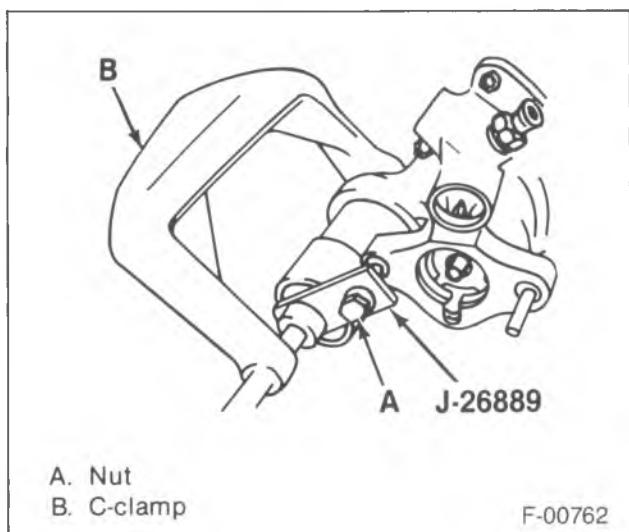
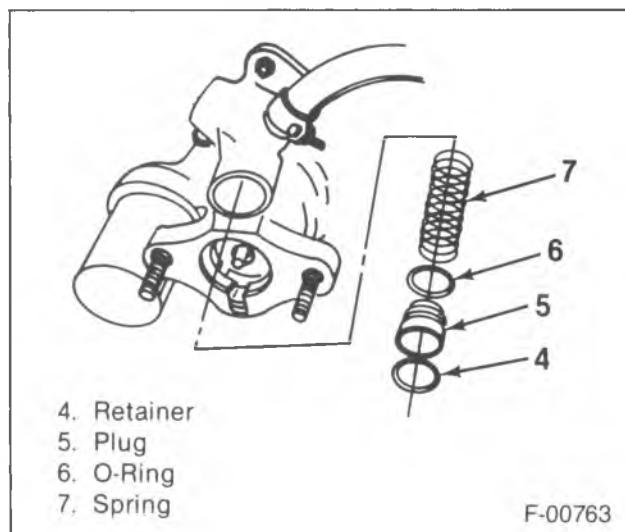
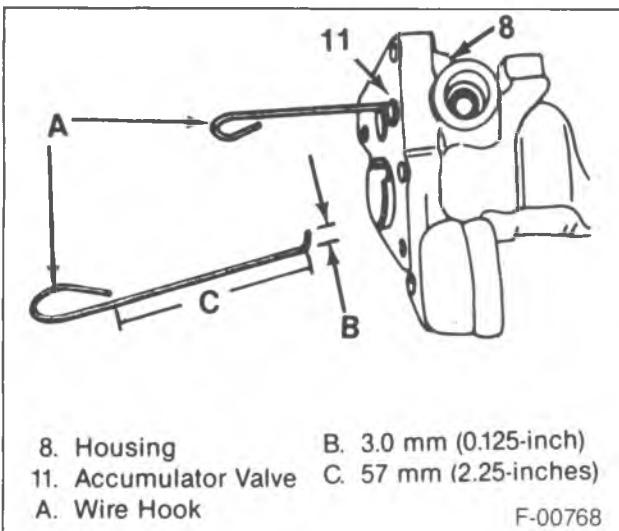

Figure 2—Removing the Accumulator
Figure 3—Removing the Plug and Spring
Figure 4—Removing the Accumulator Valve
- Place J 26889 over the end of the accumulator and install a nut onto the stud (figure 2).
- 1. Retainer (1).
- 2. Accumulator (2) and O-ring (3).
- 3. Retainer (4).
- 4. Plug (5), O-ring (6) and spring (7) (figure 3).
5. Retainer (26).
6. Output pushrod (28), baffle (27), piston return spring (25) and retainer (24).
- Saw off the eyelet of the pedal rod (20).
7. Boot (19).
8. Nut (18) and bracket (17).
9. Bolts (9).
- Separate the cover (16) from the housing (8).
11. Piston assembly (22) and seal (23).
12. Spool valve (13).
13. Accumulator valve (11) (figure 4).
14. Return line fitting (12) and seal (10).